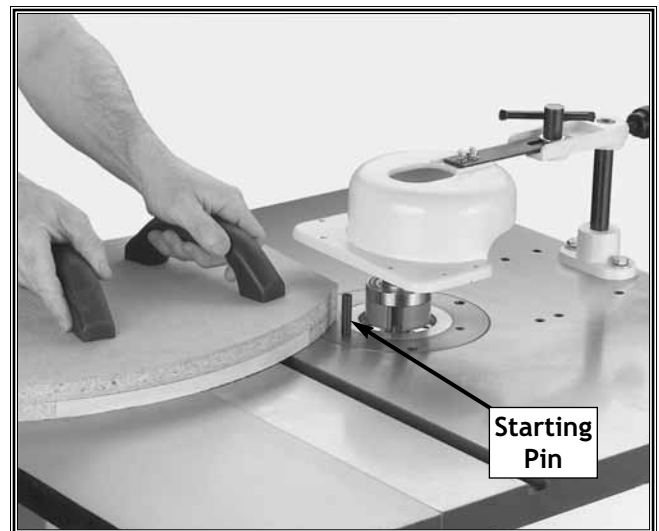

Figure 51. Hold-down jig used to support workpiece (Complete guard not shown for clarity).
6. Use a supplemental hold-down jig like the **SHOP FOX® W1500 Right Angle Jig** as shown in **Figure 51**, or you can use rubberized-handle push blocks to support or guide the workpiece and protect your hands.